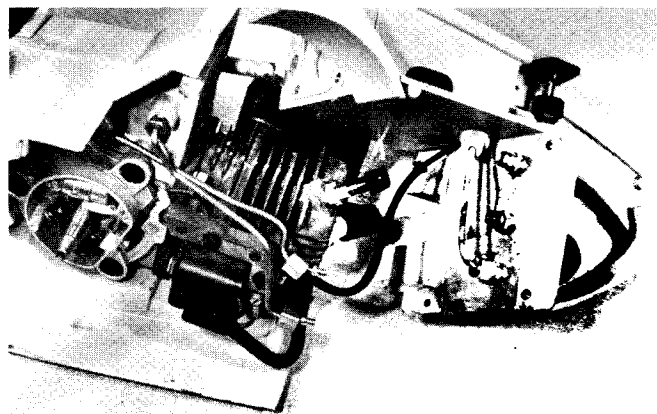

Fig. 46 — Installing Oil Tank
16. Position oil tank assembly with wires and lines routed as shown in Figs. 46 and 31. Secure